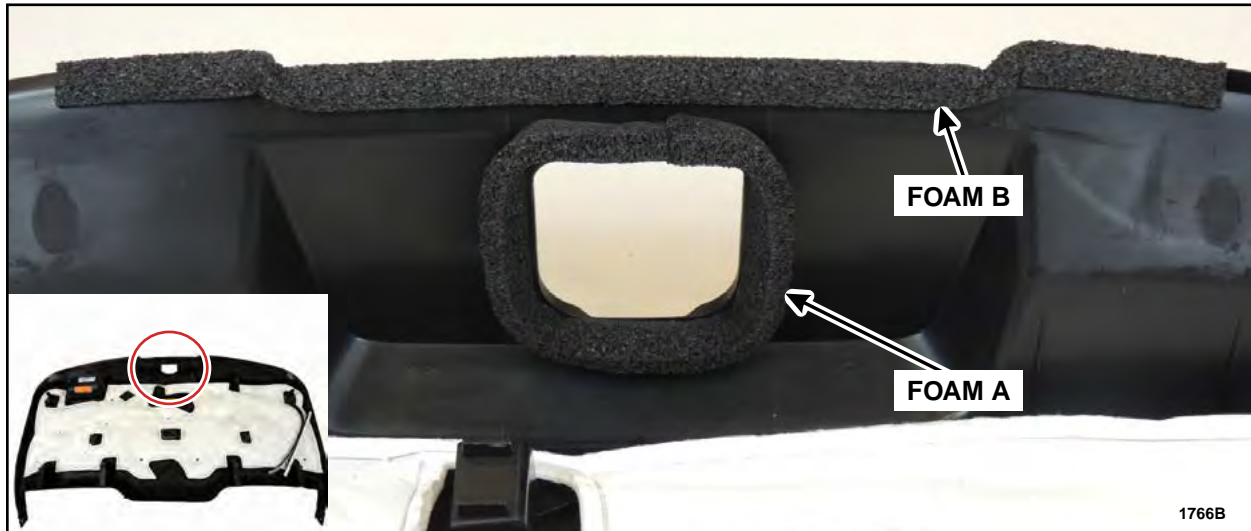

FIGURE 18
5. Using isopropyl alcohol and a clean cloth, clean the liftgate trim panel where foam A and B will be installed. See Figure 18.
6. Install foam A and B on the liftgate trim panel. See Figure 18.